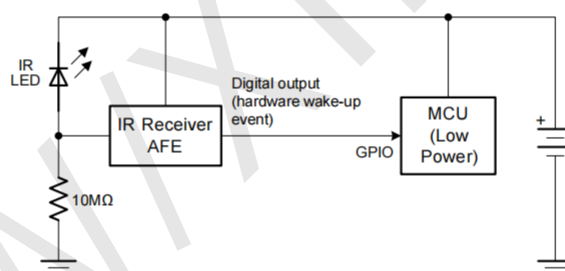

Figure 4. Coin Cell Battery Powered IR Receiver
Infrared (IR) communication is inherently immune to long as there is a line-of-sight path between the transmitter and the receiver. It is also one of the lowest cost communication schemes. This makes it a good choice for implementing wireless communications in applications such as utility metering. A common system topology is to use a power efficient IR receiver analog front end (AFE) that is always on and wakes up the host only when there is a valid IR signal detected as shown in Figure 4.
Figure 4 shows the IR receiver system block diagram. The host MCU is normally in the shutdown mode (during which the quiescent current is less than 1  $\mu$ A) except when data is being transferred.